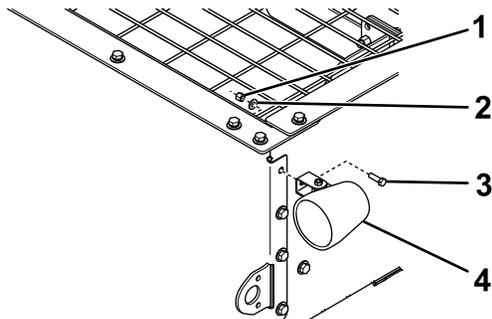

Figure 8
20. Secure the lights to the spreader hopper using 2 bolts (5/16 inch), washers, and nuts (Figure 8).